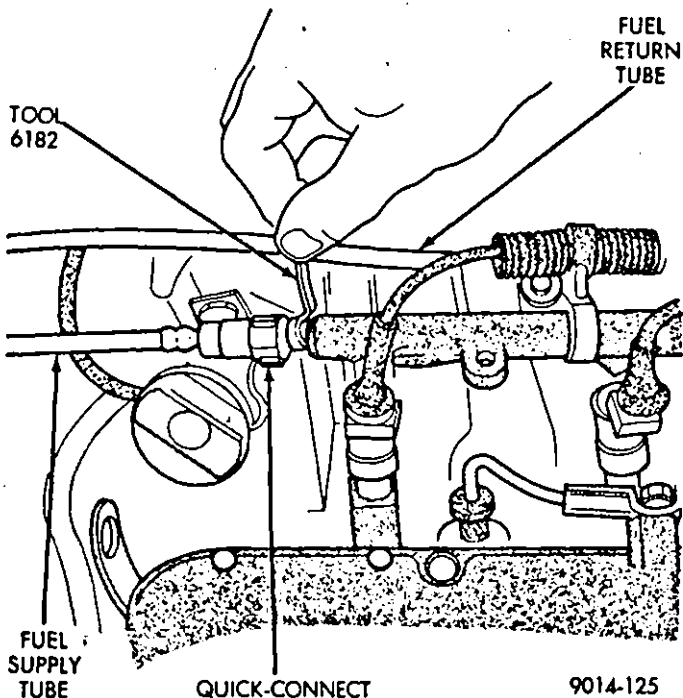

Fig. 2—Disconnecting Fuel Supply Tube at Fuel Rail—MPI
(2) Use tool 6182 to remove the black fuel supply tube from the fuel rail (Fig. 2). Slide the tool over the nipple and up into the connector until the handle fits the connector. Pull the fuel supply tube off the fuel rail.
(3) Install fuel tube adapter, tool number 6175.
(4) Push the female end with the quick-connect fitting over the fuel rail until a click is heard. Pull the connector back to ensure that it is locked in place.
(5) Push the male end with the nipple into the black fuel supply tube until a click is heard. Pull the nipple back to ensure that it is locked in place.
(6) Attach the 0-60 psi gauge from fuel gauge set 5069 or equivalent to the port on fuel tube adapter 6175.
(7) Start the engine and check the fuel pressure. It should be 193-207 kPa (28-30 psi).